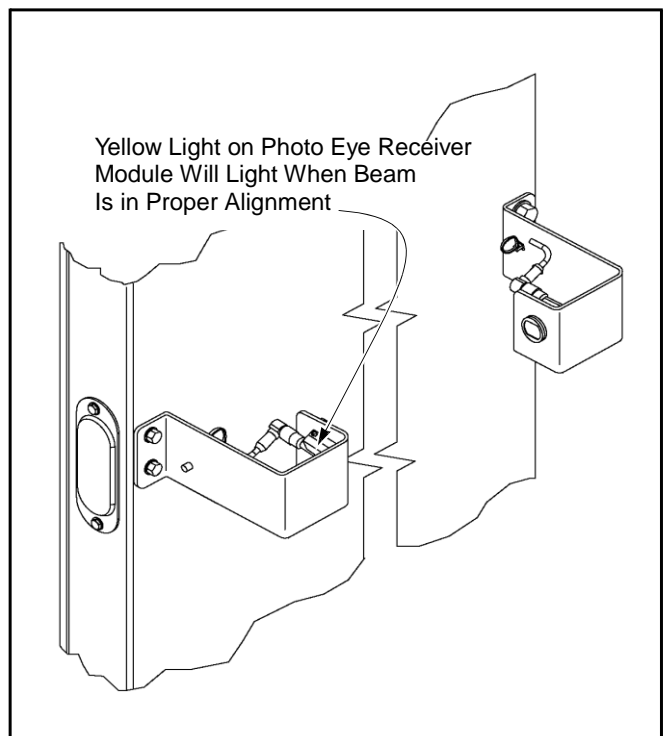

Figure 38
1. Check to see that the photo eye on the front side of the door has been installed for a horizontal beam across the door opening. (See Figure 38.)
(See Figure 38.)